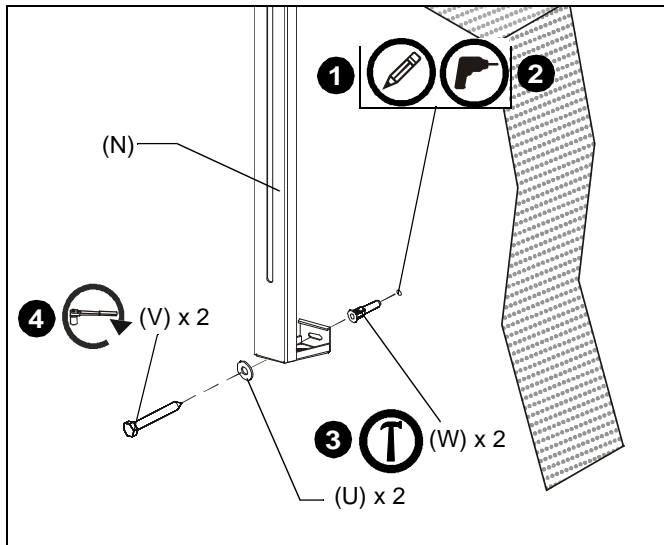
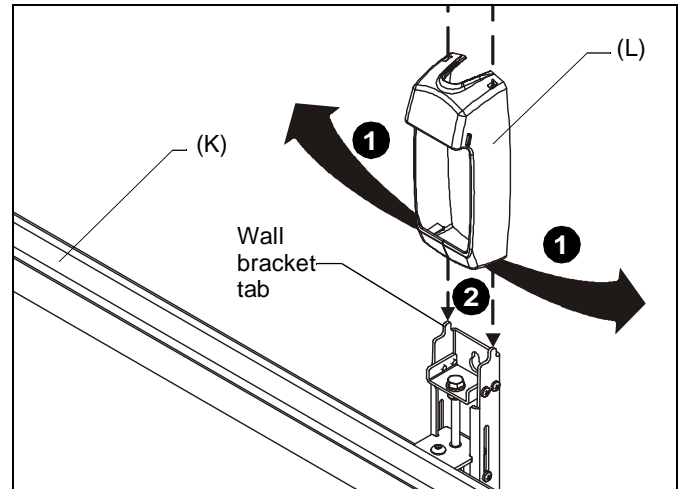

Figure 18
Figure 19
- Mark the wall through the adjustable leg (N) on each upright assembly (D). (See Figure 18)
- Drill one 1/4" x 2-3/4" pilot hole at marking. (See Figure 18)
- Install a Toggler (W) into pilot hole using a hammer. (See Figure 18)
- Use one 1/4-20 x 2-1/2" lag bolt (V) and one 1/4" flat washer (U) to attach adjustable leg (N) to anchor in wall. (See Figure 18)
- Repeat Steps 2 through 4 for other adjustable leg (N).
- Open the lower flaps of the wall bracket cover (L) outward. (See Figure 19)
- Slide the cover downward, hooking the top of the wall bracket covers (L) onto the tabs on top of wall assembly brackets. (See Figure 19)
- Slide the lower flaps of the wall bracket cover (L) under the bottom of the wall assembly brackets (K). (See Figure 19)